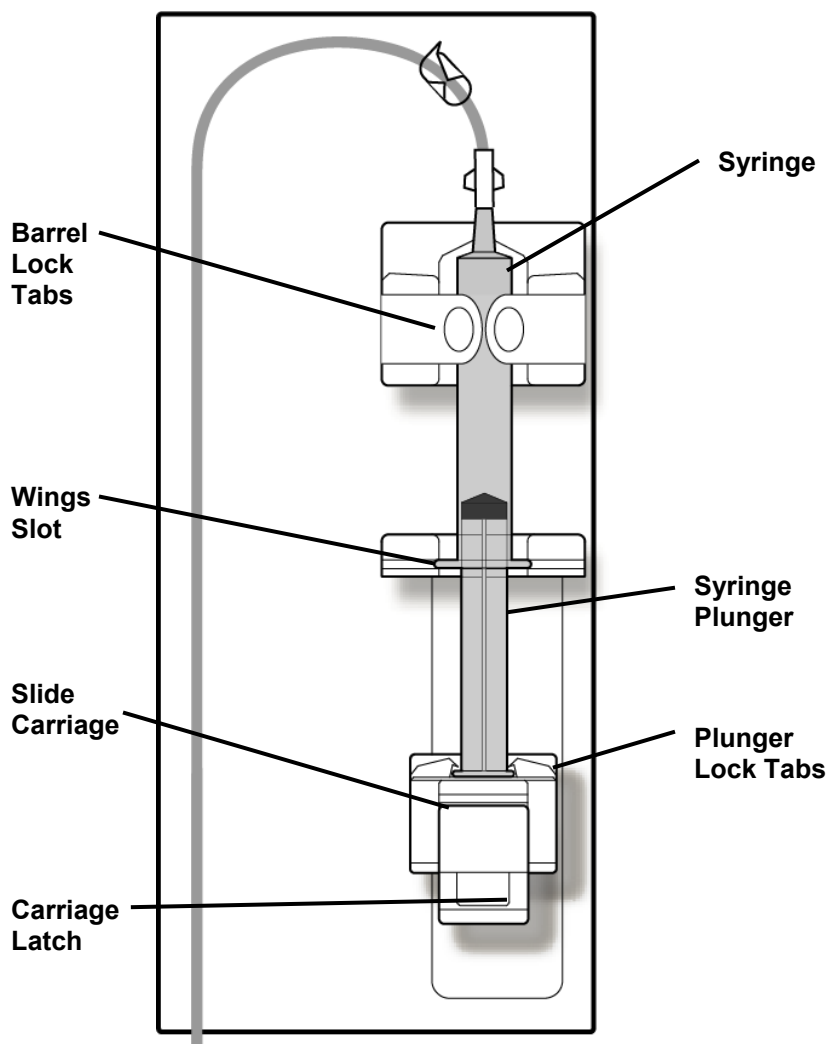

Figure 36 – The 2008K Heparin Pump Module with Syringe Loaded and Connected
6. Pull back one of the barrel lock tabs and press the barrel of the syringe into place. Slide the barrel wings of the syringe into the wings slot on the pump module. With the barrel in place, release the barrel lock tab (see Figure 36).